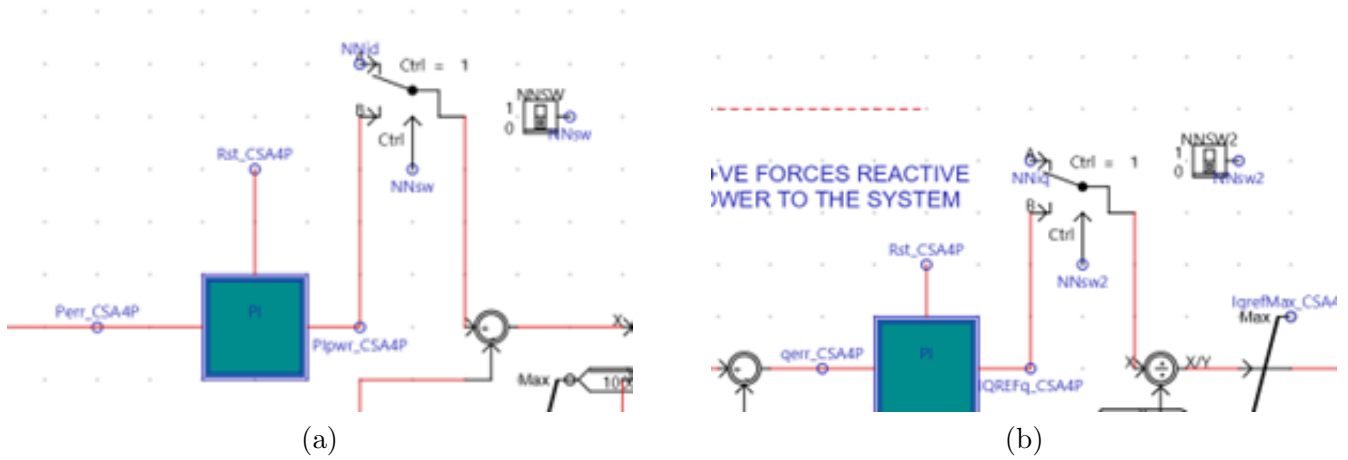

Figure 4.3: Inclusion of switches for the control of: (a) active power; and (b) reactive power.
Step 5: To include the desired controller, add a proper input signal to a switch to include NN output for both active and reactive power as depicted in Fig. 4.3. Please note that these controls are also present in the same file where are the controller boxes.